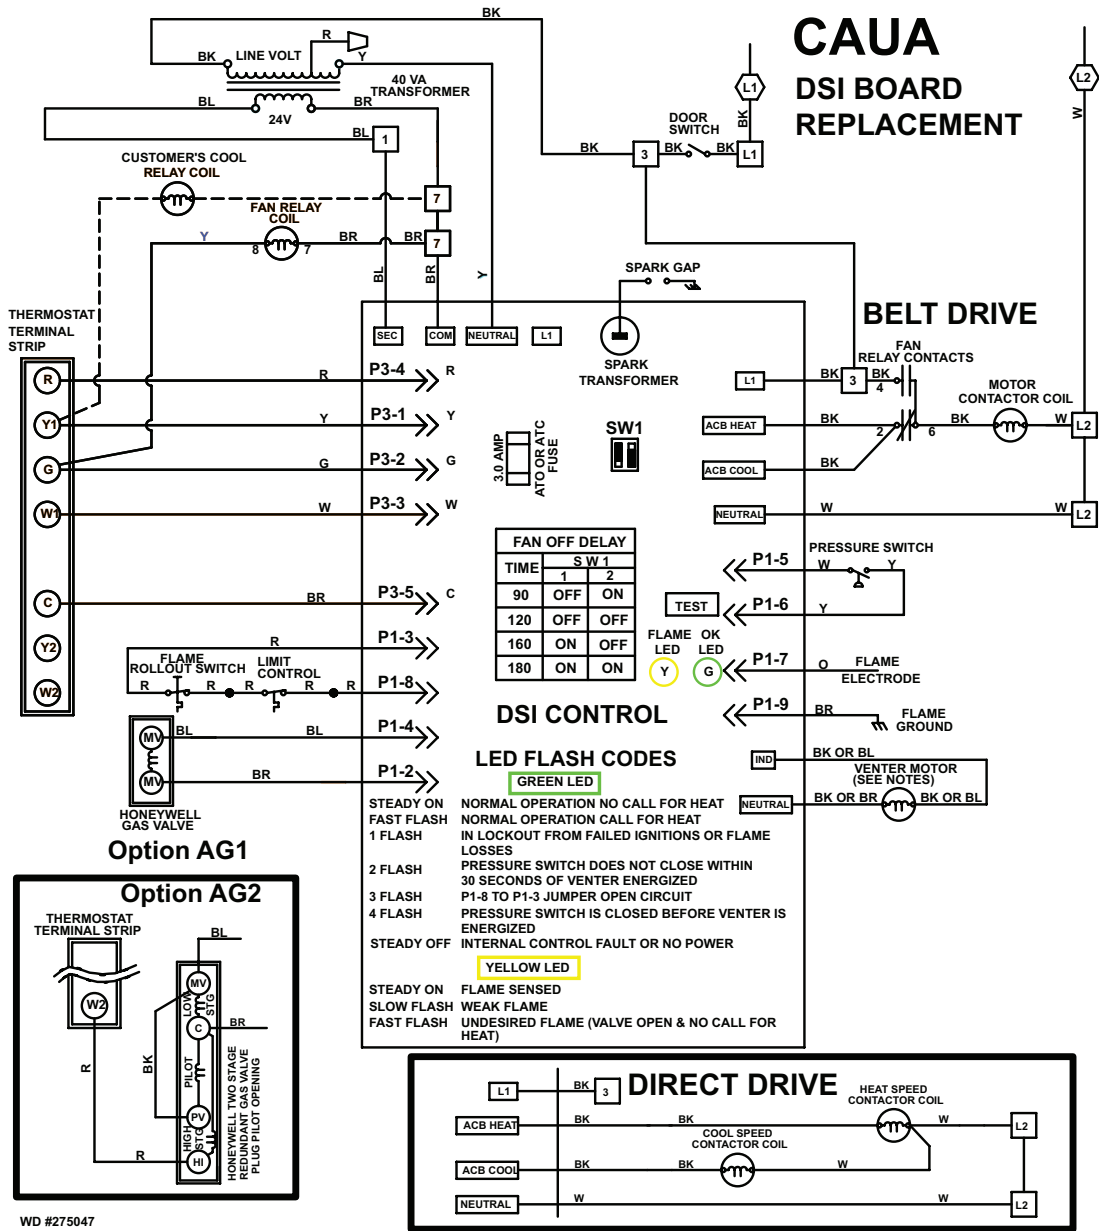

Figure 48. CAUA Wiring Diagram Label
5. Connect wiring in accordance with replacement wiring diagram label (11, see Figure 48):
NOTE: To cover all applications, connections shown in Figure 48 are for single-stage (AG1) and two-stage (AG2) controls and for both direct and belt drive motors. Make the connections that apply to the options on the unit being serviced.
6. Adhere wiring diagram label (11, see Figure 48) on left panel inside burner compartment.